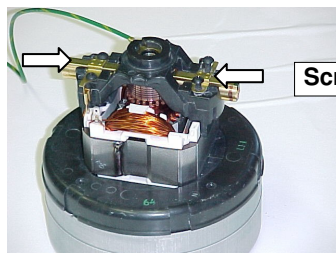

Figure 1
- 1) Using a phillips screwdriver,loosen the 2 screws holding down each of 2 gold colored brush casings (see Figure 1)